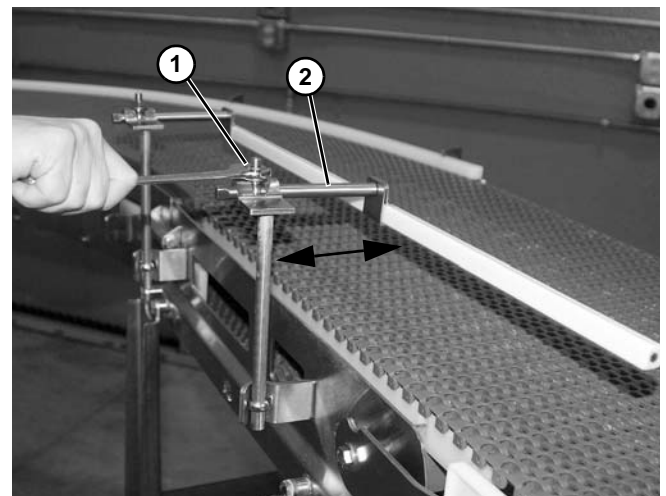

Figure 41
3. Loosen nut (Figure 41, item 1), and adjust the horizontal guide post (Figure 41, item 2) and guide rail, as needed. Tighten nut.